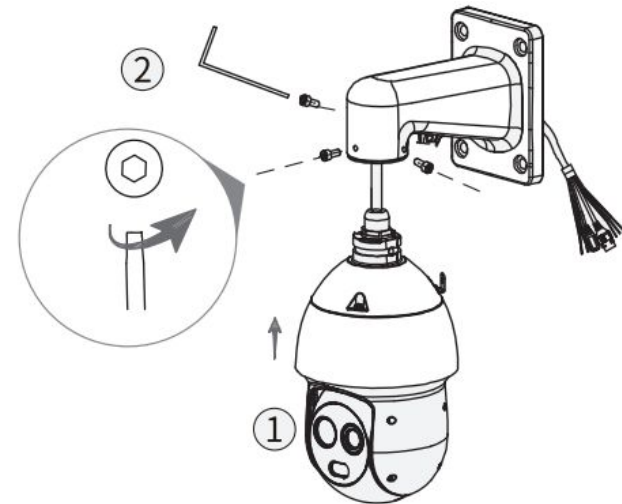

Figure 2-3
Step 3 Thread the camera cables through the mount and install the mounting collar screws as shown in Figure 2-3.